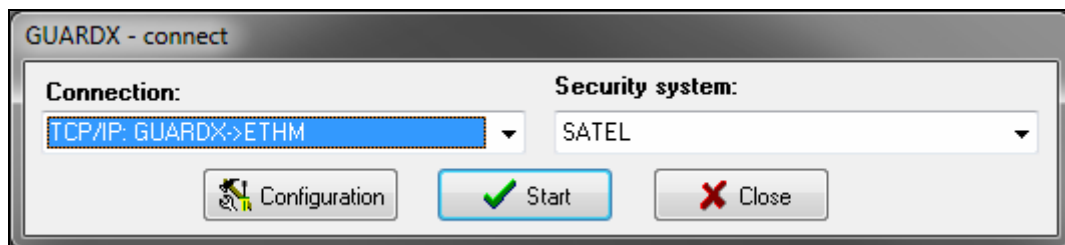

Fig. 15. GUARDX program: startup window.
To configure the settings related to communication with the alarm system, click on the “Configuration” button in the startup window of GUARDX program (Fig. 15).
If you want to configure the settings for communication with the alarm system, select the communication method in the GUARDX program startup window, “Connection” field (“TCP/IP: GUARDX->ETHM”, “TCP/IP: GUARDX<-ETHM/INT-GSM” or “TCP/IP: SATEL server”), and then click on the “Configuration” button (Fig. 15).
1. In the startup window (Fig. 15), "Connection" field, select "TCP/IP: GUARDX->ETHM", and then click on the "Start" button.
1. In the startup window (Fig. 15), "Connection" field, select "TCP/IP: GUARDX<-ETHM/INT-GSM", and then click on the "Start" button.
1. In the startup window (Fig. 15), “Connection” field, select “TCP/IP: GUARDX<-ETHM/INT-GSM”, and then click on the “Start” button.
1. In the startup window (Fig. 15), “Connection” field, select “TCP/IP: SATEL server”, and then click on the “Start” button.